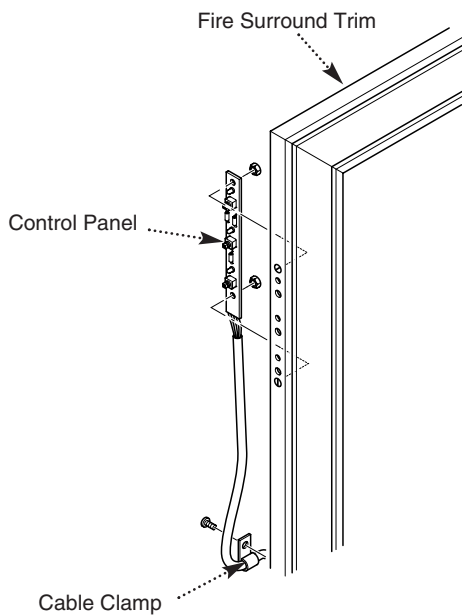

Fig. 80
3. Remove the cable clamp which secures the control panel cable (Fig. 80).
4. Remove the two control panel securing nuts and remove the panel (Fig. 80).